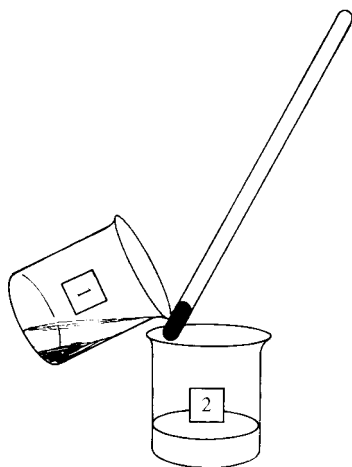

Figure 3.1
3. *Decantation*. This separates a liquid from an insoluble solid sediment by carefully pouring the liquid from the solid without disturbing the solid (Figure 3.1).